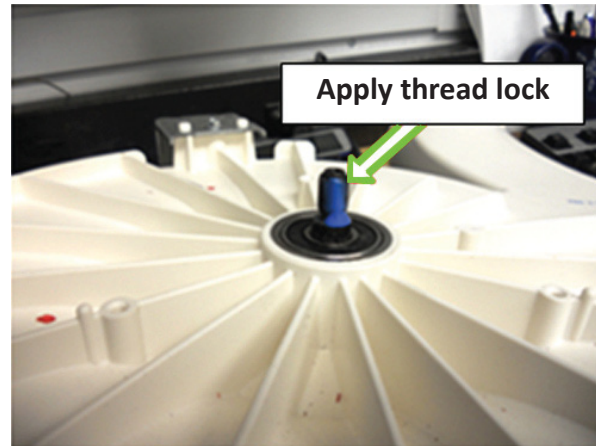

Figure 3
c.) Apply a coating of medium strength thread lock (Thread lock 242 -part # 4210460) to the entire length of threads on the blower shaft. See figure 3.